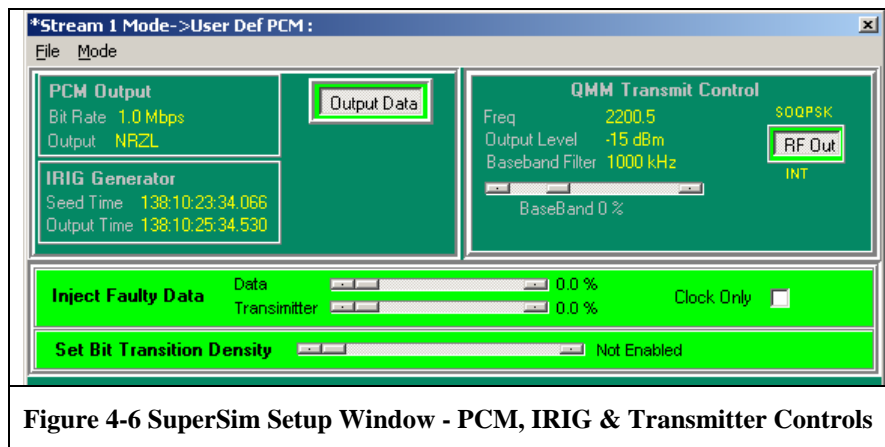

Figure 4-6 SuperSim Setup Window - PCM, IRIG & Transmitter Controls
- **PCM Output** – Shown left in Figure 4-6 below, the top portion of the setup window is where the user sets parameters such as: bit rate, PCM output code, seed the IRIG generator, and start/stops the data output.
- **Transmitter Control** – Shown right in Figure 4-6 below is where the user sets up the transmitter and turns the RF on/off.
The panel shown in Figure 4-7 will be red if the **Data Output** button (see Figure 4-6) is off, otherwise it is green.